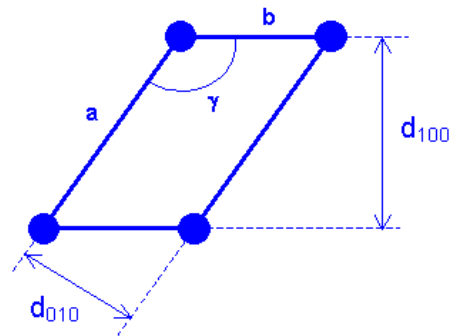

Figure 1.17: Two-dimensional direct lattice
and reflect the beam? The use of the reciprocal lattice to understand diffraction was demonstrated in 1913 by P. P. Ewald. The points of a reciprocal lattice represent the planes of the *direct* (i.e. real) lattice that it is formed from. The direct lattice determines (through defined relationships) the reciprocal lattice vectors, the lattice points spacings and the associated reciprocal directions. Consider the two-dimensional direct lattice shown in Fig. 1.17. It is defined by the real vectors $\mathbf{a}$ and $\mathbf{b}$, and the angle γ . The spacings of the (100) and (010) planes (i.e. d_{100} and d_{010}) are shown. A three-dimensional direct lattice would introduce a lattice vector $\mathbf{c}$ perpendicular to the plane of the diagram.